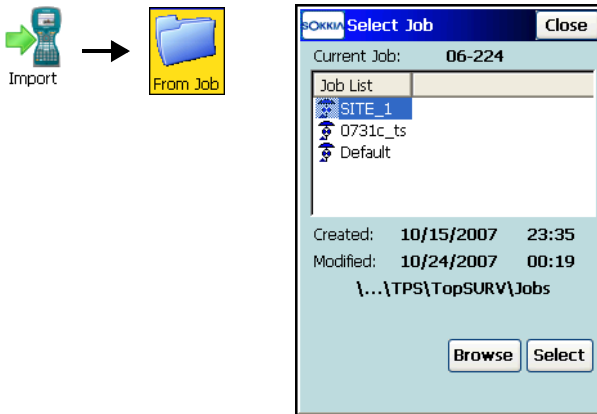

Figure 5-1. Select Job
1. Tap **Import ▶ From Job**. The *Select Job* screen (Figure 5-1 on page 5-2) displays and highlights the name of the job file in the Job List; or tap **Browse** to select the Job file from the disk, then tap **Select**.